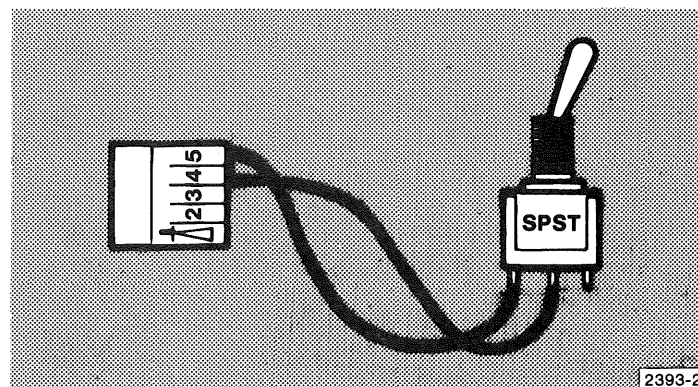

Figure 3-1. Remote Switch.
- Remote switch with five-pin harmonica connector (Figure 3-1) to fit J63. (A two-pin jumper may be substituted.)